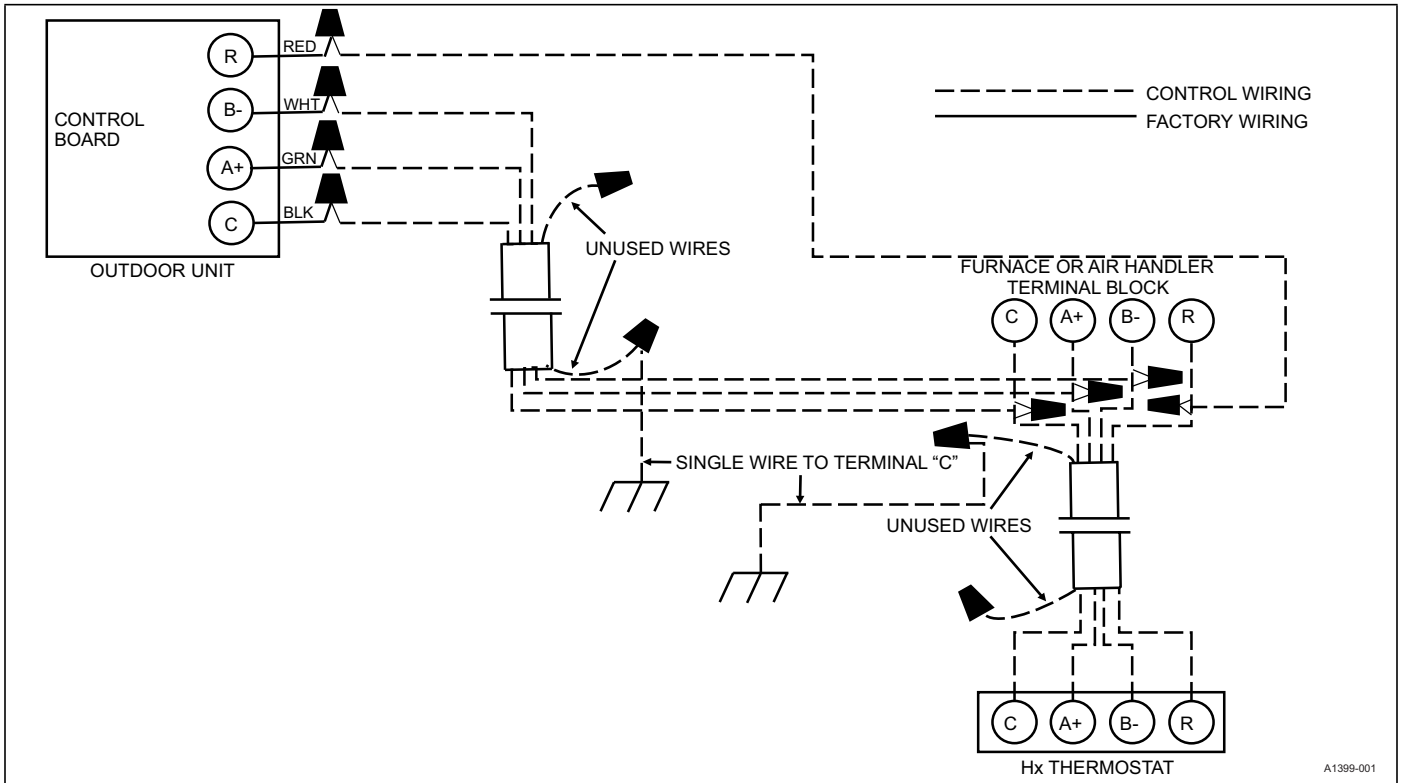

FIGURE 13: Typical Communicating Field Wiring (Air Handler / Furnace)
3. Strip the four wires and make the necessary thermostat connections noted in the thermostat wiring diagrams. Refer to Figures 13 & 15.
*If the installation contains excess conductors greater than 3-4 wires (communication equipment dependent), the excess wires should be grounded to reduce electrical noise. Use a wire nut to bundle the excess wires at each end. A single wire should then be connected to "chassis ground" (near the transformer or ground lug) as shown in Figure 13.*